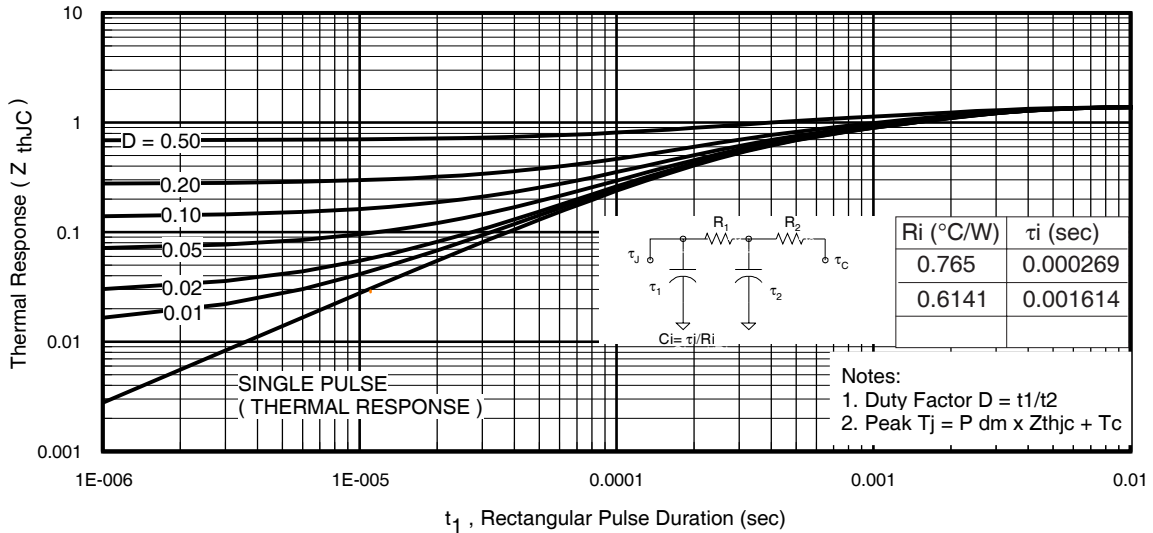
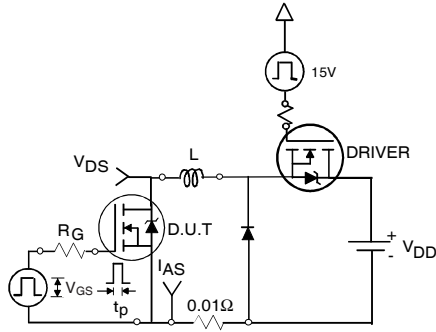

Fig 11. Maximum Effective Transient Thermal Impedance, Junction-to-Case
Fig 12a. Unclamped Inductive Test Circuit
3. Equation below based on circuit and waveforms shown in Figures 12a, 12b.
$Z_{thJC}(D, t_{av})$ = Transient thermal resistance, see figure 11)
- ① Repetitive rating; pulse width limited by max. junction temperature. (See fig. 11).
- ② Limited by T_{Jmax} , starting $T_J = 25^\circ C$, $L = 0.089mH$, $R_G = 25\Omega$, $I_{AS} = 36A$, $V_{GS} = 10V$. Part not recommended for use above this value.
- ③ Pulse width $\leq 1.0ms$; duty cycle $\leq 2\%$.
- ④ C_{oss} eff. is a fixed capacitance that gives the same charging time as C_{oss} while V_{DS} is rising from 0 to 80% V_{DSS} .
- ⑤ Limited by T_{Jmax} , see Fig.12a, 12b, 15, 16 for typical repetitive avalanche performance.
- ⑥ This value determined from sample failure population. 100% tested to this value in production.
- ⑦ When mounted on 1" square PCB (FR-4 or G-10 Material). For recommended footprint and soldering techniques refer to application note #AN-994
- ⑧ R_θ is measured at T_J approximately $90^\circ C$